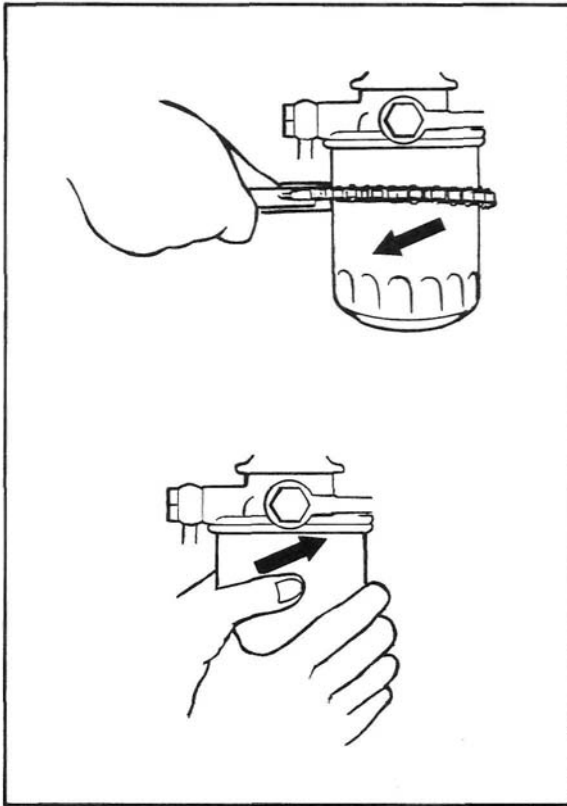

Fig. 9
2. Remove the filter canister (see Fig. 9) with a strap wrench or similar tool. Discard the canister.